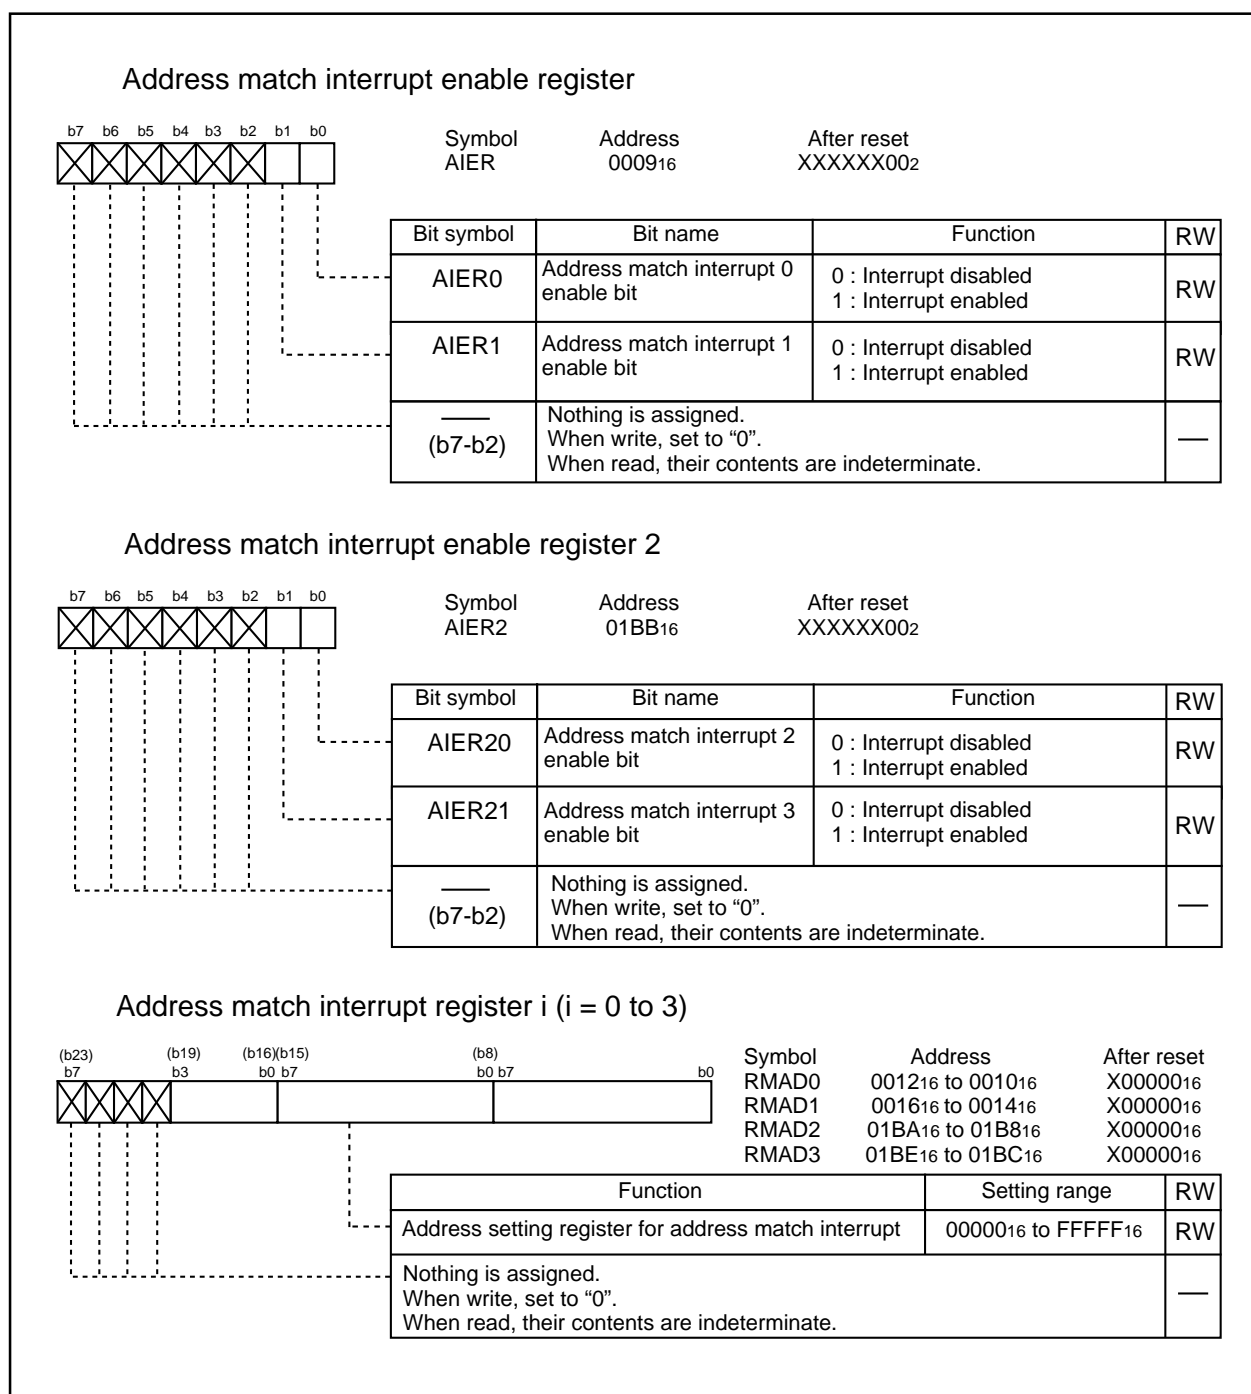

Figure 1.9.12. AIER Register, AIER2 Register and RMAD0 to RMAD3 Registers
Figure 1.9.12 shows the AIER, AIER2, and RMAD0 to RMAD3 registers.
(1) Reading Address 00000₁₆
(2) SP Setting
- When the polarity of the $\overline{\text{INT}}_0$ to $\overline{\text{INT}}_3$ pins is changed, the IR bit is sometimes set to "1" (=interrupt requested). After changing the polarity, set the IR bit to "0" (=interrupt not requested). Figure 1.9.12 shows the procedure for changing the $\overline{\text{INT}}$ interrupt generate factor.
(4) Watchdog Timer Interrupt